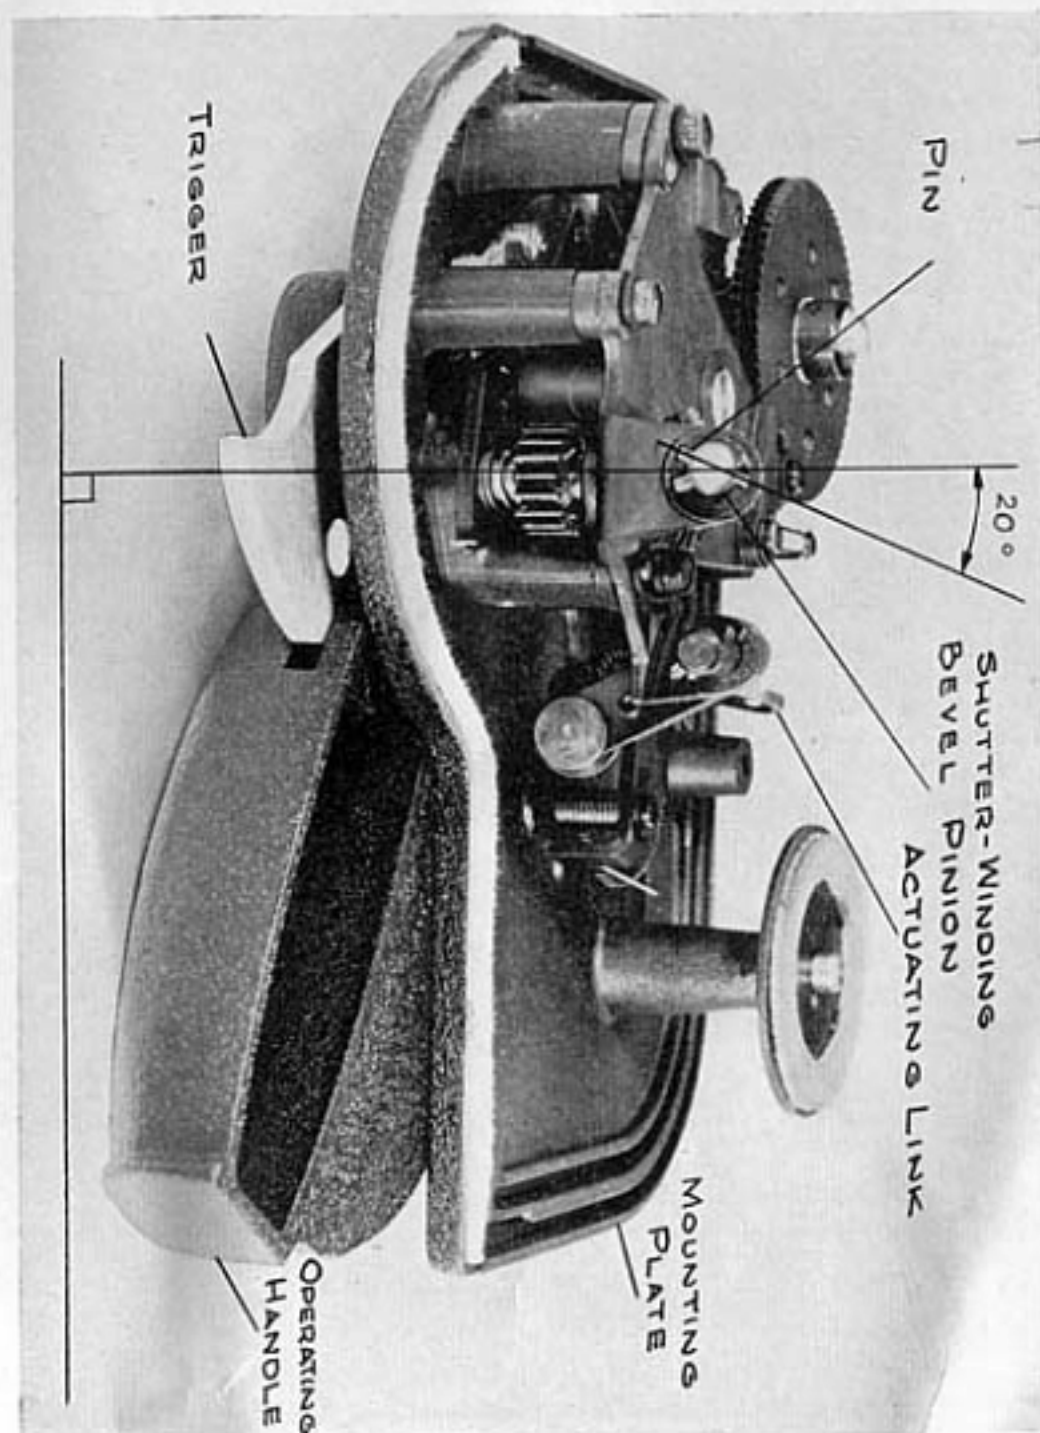

Figure 12—Setting the Angle of the Pin
a. General. (See figures 12 and 13.)
(1) In reassembly, the sequence of assembly of details, subassemblies and assemblies is indicated by the order of their appearance in the text.
(2) In many instances, the drawing numbers given refer to simple sub-assemblies, which require no individual treatment as to their respective details.
(c) Position the mechanism rear plate (K20B-451) to the side plate assembly (K20D-H3) in such a manner that, when the operating handle (K20D-541) is in the extreme rear position and the teeth on the winding sector (K20C-438) and those on the wind-clutch pinion (K20B-493) are engaged, the lower pin in the shutter-winding bevel pinion (K20C-401) will form an angle of 20 degrees measured clockwise from the vertical center line of the base of the shaft of the shutter-winding bevel pinion (K20C-401). (See figure 12.)